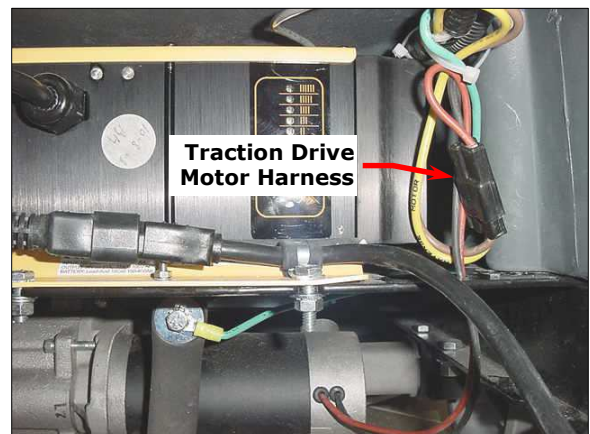

Figure 15 – Traction Drive Motor Harness
10. See Figure 15. Disconnect the traction drive motor harness (if so equipped).